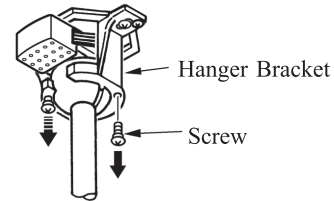

FIG.9
3. Remove one of screws and loosen the other screw from the hanger bracket. (See fig. 9)